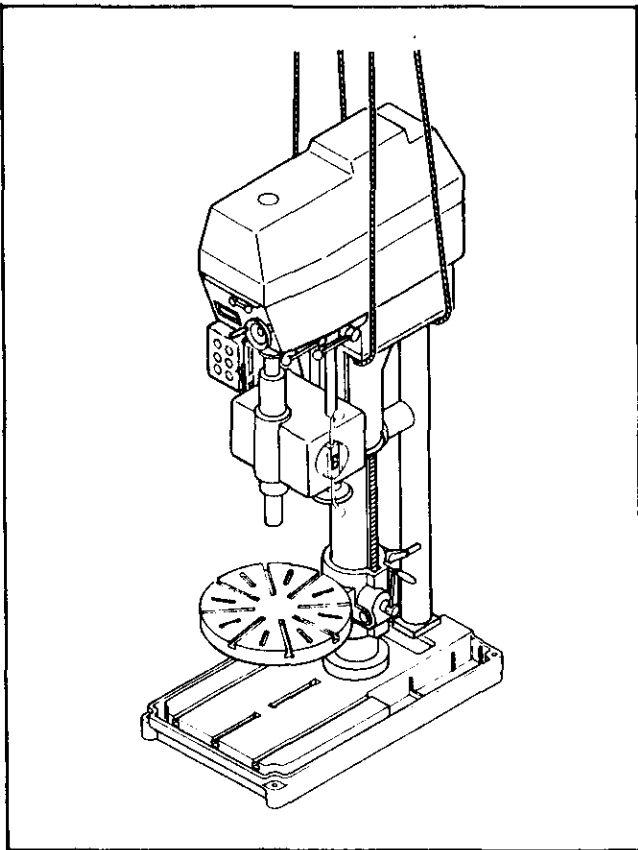

Figure 1. Lifting The Machine
1. Remove the crating but be careful to save any small boxes which may be attached. They contain important parts of the machine. The skids should remain attached to the machine until it has been moved to its permanent location or under a crane. Lift the machine with a crane using a rope sling as shown in Figure 1. Place a pad or felt between the rope and the machine to prevent marring the painted surface. All loose parts such as a spindle guard and shaft guard, piping and wrenches are packed in a separate wooden box attached to the skids.